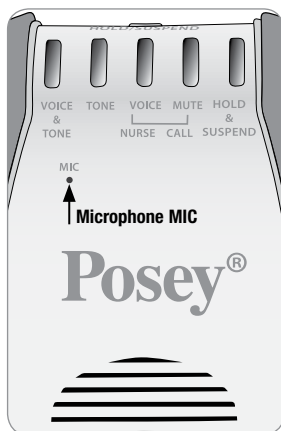

Fig. 16
6. In a normal voice, speak into the microphone aperture labeled MIC on front, top left corner of alarm (Fig. 16).